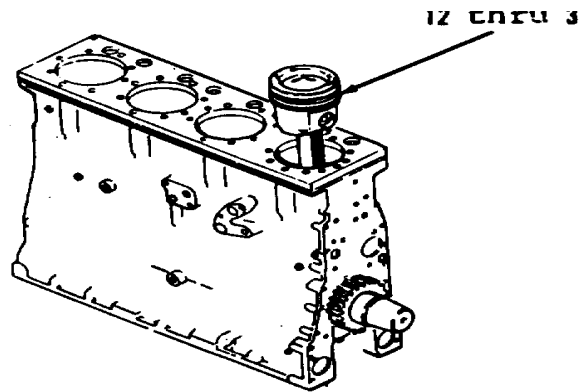

Figure 13-49.
14. Insert items 12 thru 3 as an assembly (Figure 13-49) in cylinder liner. "V" mark on piston must be in alignment with "V" mark on cylinder block. Rest piston on oil ring.